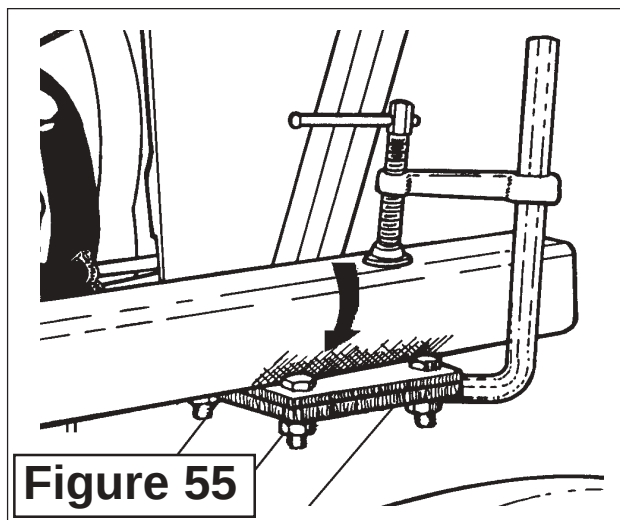
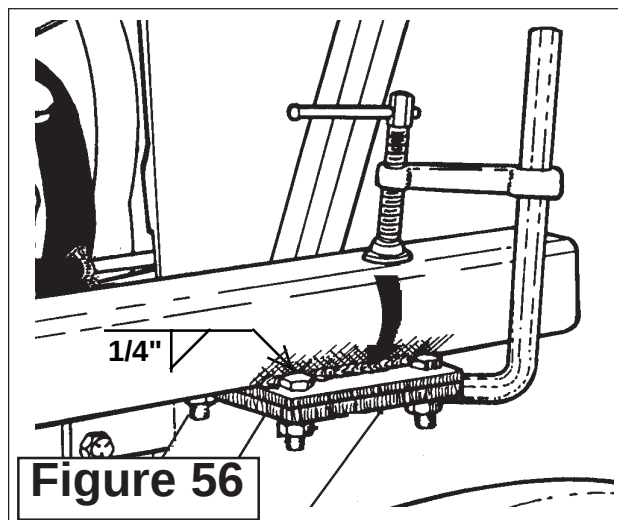

Figure 55
Figure 56
6. The Side Rails. This should already be done but Check it before you are finished welding. These Frame rails will be welded to the Rail Support Plates, so it will be necessary to scrape the paint off approximately 5/8" of the base before attaching. Clamp Side Rails to Front Mount Supports. (See Figure 55). Tack-weld rails to Front Mount Brackets. After thorough check for horizontal and parallel location, weld a solid 1/4" fillet weld bead 8" long on both sides. (See Figure 56). Note that any Step Type Counter Weight must clear the Left Rear Tire.